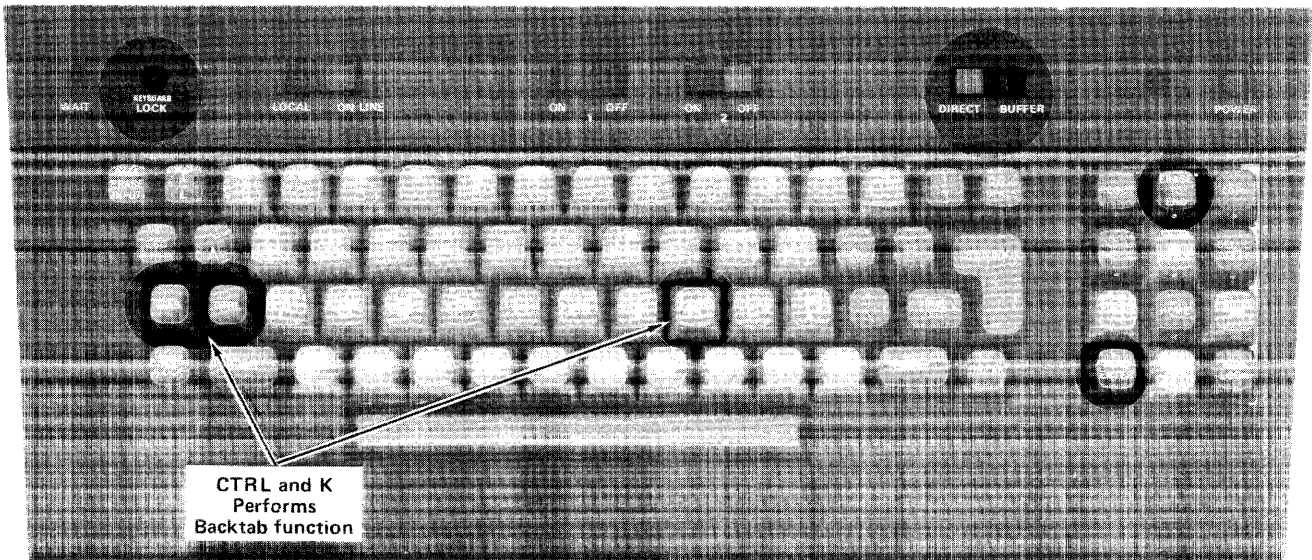

Fig. 1-17. Formatted display and related keys.
If your company uses formatted displays that contain protected and unprotected fields, have a more experienced 4023 Terminal operator retrieve a blank form from the computer system to use as you proceed through the following discussion. Find out which of the fields are protected and which are unprotected, then proceed with the following: Fig. 1-17 can also be referred to when reading the following. (Fig. 1-17 can be programmed from the keyboard by using the procedure outlined in Appendix D.) This figure illustrates a formatted display and related keyboard keys that are used in form fill-out operations.
3. Press the HOME key, then quickly press and release the TAB key. The cursor is now positioned in the first character position of the first unprotected field. (In the case of Fig. 1-17, it is the field into which the person's name is entered.) Type in a few characters, then using the TAB key, move from one input field to the next, keying in a few characters in each.
In Fig. 1-17, the unprotected fields for PHONE and SOC SEC NO are non alpha fields. When you wish to enter an alpha character, simultaneously press RESET with the character input desired.